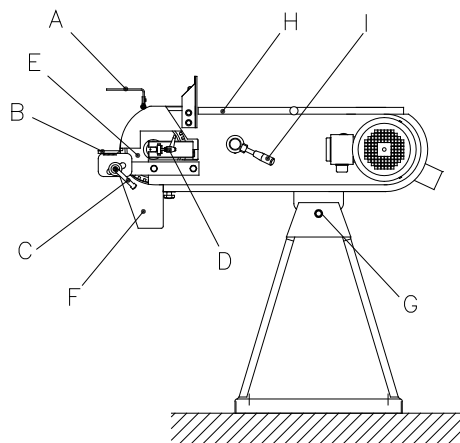

Fig.: 1.1
Eye shields, suction hose and perhaps dust bag must be mounted before use. The clamps for mounting the suction hose are placed in the dust bag. The eye shields (A) must be mounted into the eye shield fitting (see *fig.: 1.1*).
After adjustment and connection, the belt grinding machine is ready for use. The grinding can take place by the contact wheel or on the surface grinding table by opening the cover (H) (see *fig.: 1.1*). By loosening the handle (E) the cover (I) can be opened and make grinding of long materials possible. The lifetime of a new belt is prolonged if the grinding starts with a light pressure.
When changing the belt, it is released by turning the handle (J) in anti-clock-wise direction (see *fig.: 1.1*), the cover (H) and the side plate (L) is opened and the worn-down belt (K) is removed by driving the belt against the direction of rotation, the belt is removed from the machine by the drive wheel. The new belt is fitted. It must be checked that the direction of the arrows on the back side of the belt correspond to the direction of rotation. Fasten the handle (J) again and bring it into alignment with the handle (D).